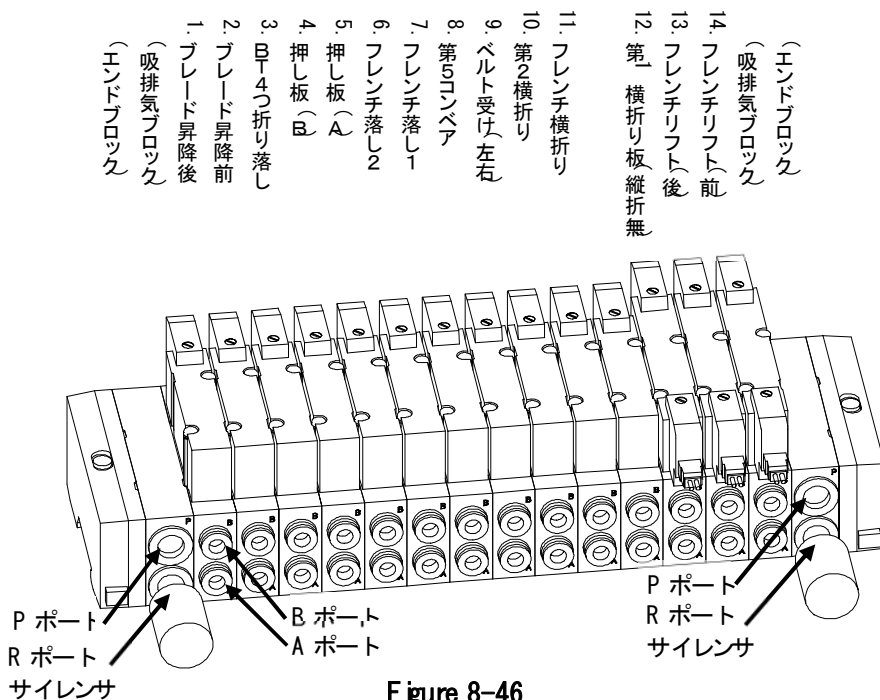

Figure 8-46
8.3.2.2 エア電磁弁 (8.3.1, Figure 8-2, Figure 8-46)